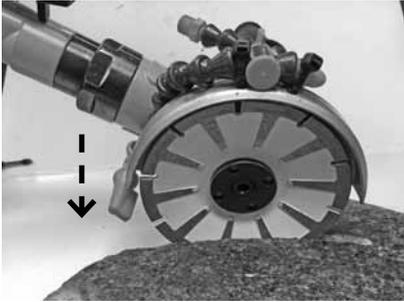

Figure 13
*towards the cutting area as shown in Figure 13 & 14.*